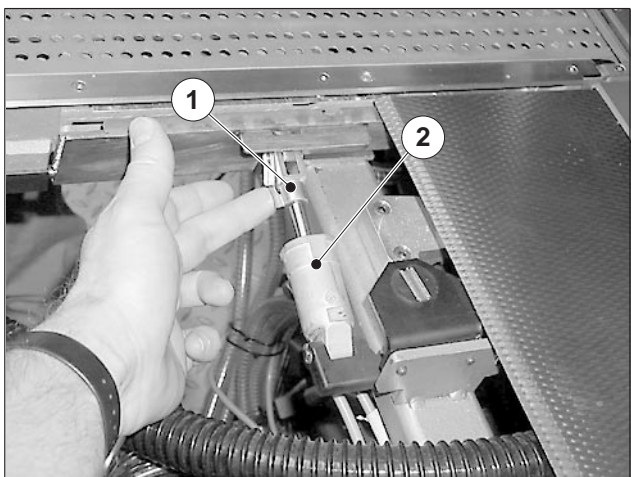

Fig. 86
11. Loosen the retaining spring (Fig. 86/1) at the pneumatic cylinder of the breather (Fig. 86/2).